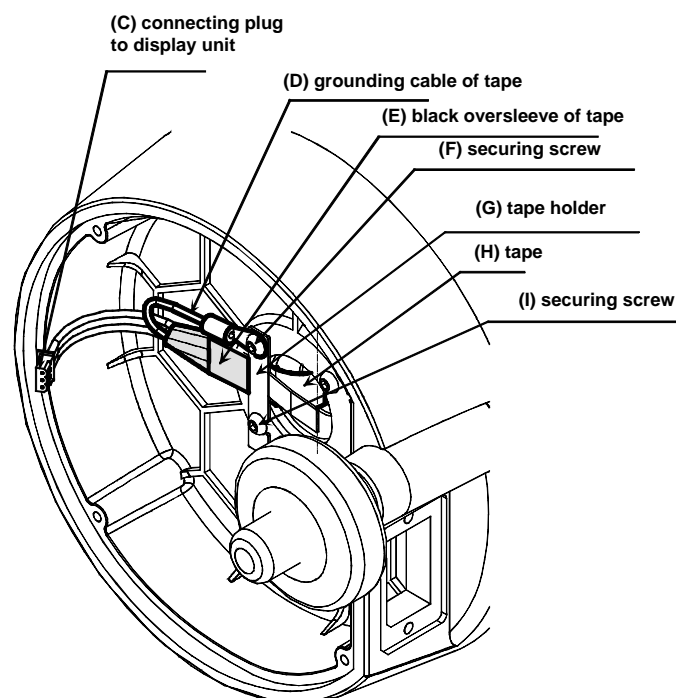
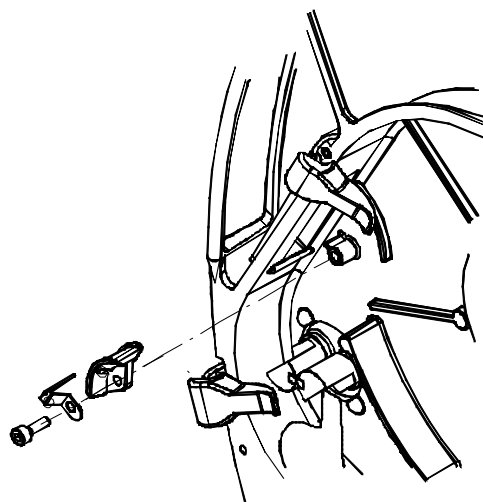

Figure 10-5
Figure 10-7
- Disconnect the connecting plug (C) as shown on Figure 10-5 and remove the display unit.
- Unscrew with the 2.5 Allen key the tape holder (G) by removing the 2 screws (F) and the grounding cable (D) as shown on Figure 10-5. Do not loose the 2 remaining screws that secure the reel axle.
- Unscrew the reading index and remove it (Figure 10-7).
- On the electronic box side, adjust the black oversleeve just to the edge of the tape holder (pull the tape gently from the other side) and tighten the tape end as shown on Figure 10-5 with.
- If necessary, readjust the loop (M) and the S-shape (L) of the tape at the core of the reel axle.
- Reinstall the reading index (Figure 10-7).
- Disconnect the tape plug, item (C) shown on Figure 10-5.